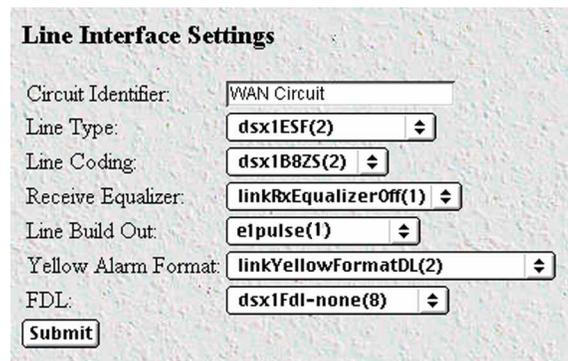

Figure 28. WAN Circuit Configuration window, Line Interface Settings section
2. Link: 1 corresponds to Line 1 on the RAS. This is the primary link for dial-in callers. Under Link 1, Click on Configuration then Modify. The Line Interface Settings section of the WAN Circuit Configuration window appears (see figure 28).
- Click on the Line Type pop-up menu (see figure 28 on page 42) and choose from the following options:
- For an E1/PRI line your options will be either dsx1E1(4) or dsx1E1-CRC(5)
- For an E1/R2 line your options will be either dsx1E1-MF(6) or dsx1E1-CRC-MF(7)
- Click on the Line Coding pop-up menu (see figure 28 on page 42) and choose either dsx1AMI(5) or dsxHDB3(3). Most installations will use HDB3.
- Click on the Line Build Out pop-up menu (see figure 28 on page 42) and select e1pulse(1).
- Click on Yellow Alarm Format pop-up menu (see figure 28 on page 42) and choose from the following options:
2. Link: 1 corresponds to Line 1 on the RAS. This is the primary link for dial-in callers. Under Link 1, Click on Configuration then Modify. The Line Interface Settings section of the WAN Circuit Configuration window appears (see figure 28 on page 42).
1. Click on the Line Type pop-up menu (see figure 28 on page 42) and choose from the following options:
2. Click on the Line Coding pop-up menu (see figure 28 on page 42). The most common options are: dsx1B8ZS and dsx1AMI. For ISDN PRI service, set the line coding to dsx1B8ZS.
3. Click on the Line Build Out pop-up menu (see figure 28 on page 42) and select t1pulse0dB(1).